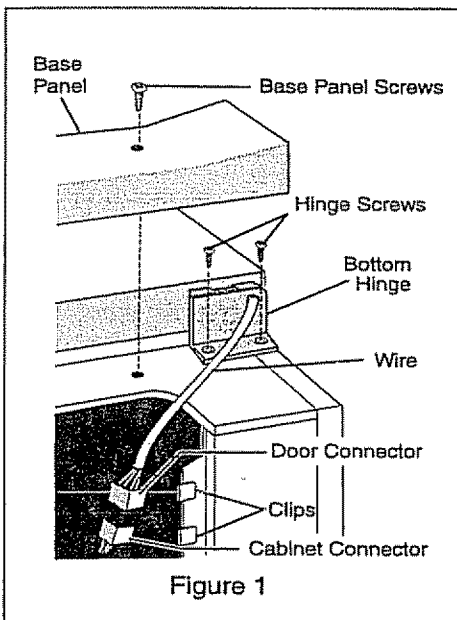

Figure 1
2. Remove the base panel by unscrewing two screws from front of base panel. Remove wire from clips on bottom of cabinet. (Figure 1)
3. Unplug connector by holding the cabinet connector in place, and pulling door connector out. (Figure 1)